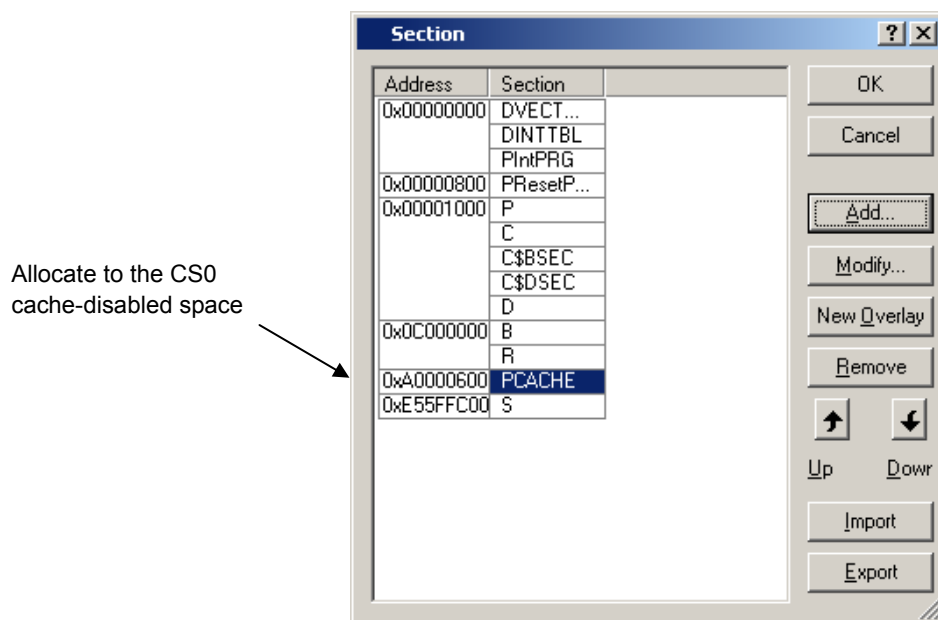

Figure 5.3.14 Section Setting (6/6)
(6) The section name is added, and the display returns to the [Section] dialog box. Confirm if the section has been set as shown in Figure 5.3.14, and click "OK".